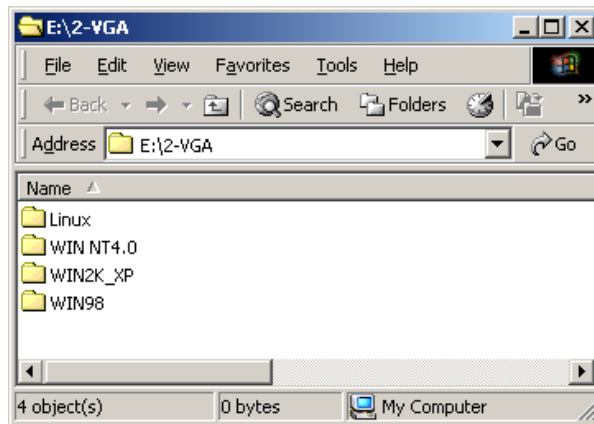

Figure 7-9: VGA OS Folders
Step 2: A new window opens (**Figure 7-9**).